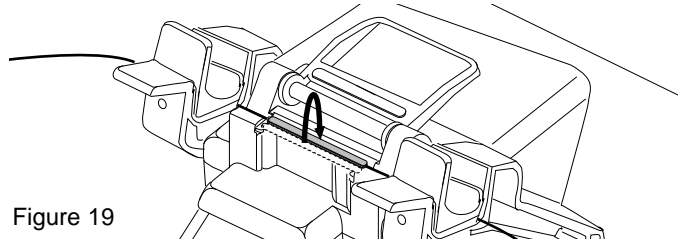

Figure 19
- c) Fold the front half of the protector over the splice (Figure 19).